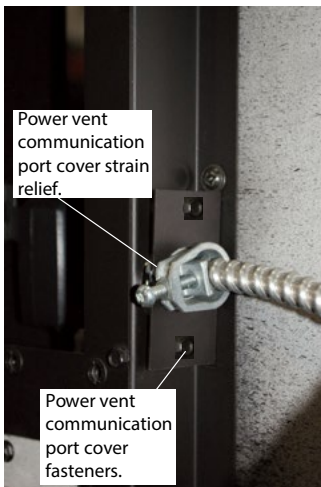

Figure 12e. Installing Conduit Port Cover Plate.
**Step 4.** Place the cover plate on the Conduit, then tighten the strain relief nut onto the threads protruding through backside of cover plate, **Figure 12e**.
**Step 6.** Re-Install the communication harness Port cover, **Figure 12e**. (*Philips head screwdriver required*).
**Step 7.** Tighten Power Vent Strain relief adjustment screw, **Figure 12e**.